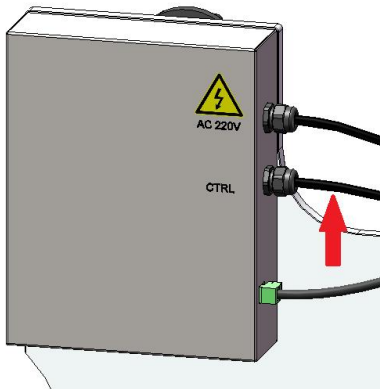
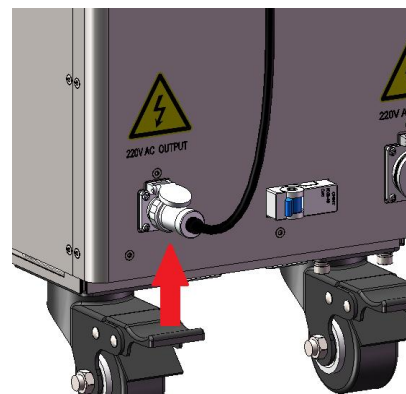

Figure 4.3
Figure 4.4
2、 Connect the wire of the CTRL (as shown in Figure 4.3) to the CTRL-INTERFACE. Connect it according to the mark on the wire. Fix it tightly, and then install the protective cover..
3、 Connect the wire corresponding to AC220V (as shown in Figure 4.3) to the 220VAC OUTPUT (as shown in Figure 4.4). The wire must be firmly fixed..